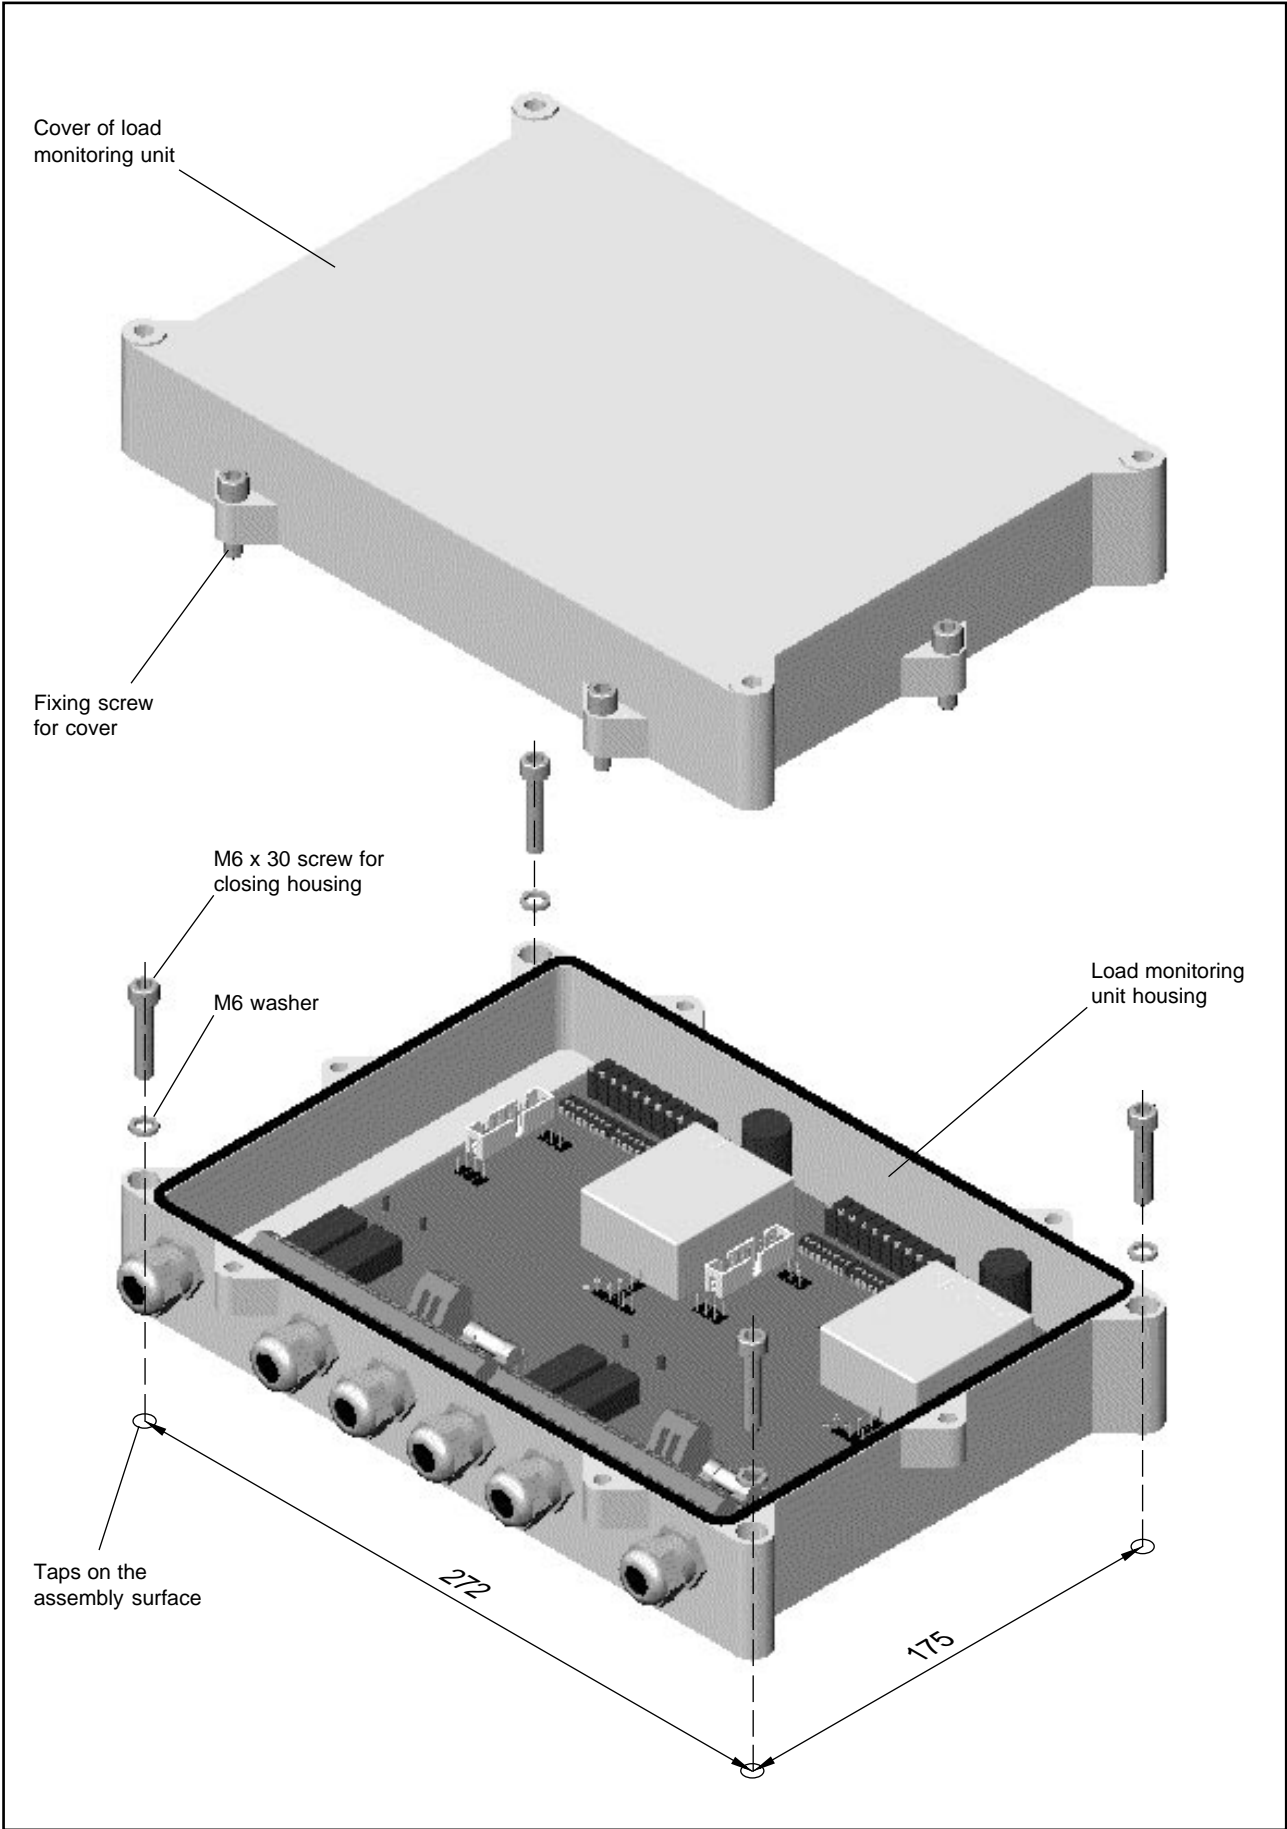

Fig. 4-4 : Installation of the LMU 117 load monitoring unit.
- Mark the position of 4 tapping points on the assembly surface (see Figure 4-4).
- Remove the cover of the load monitoring unit housing by unscrewing its six screws (see Figure 4-4).